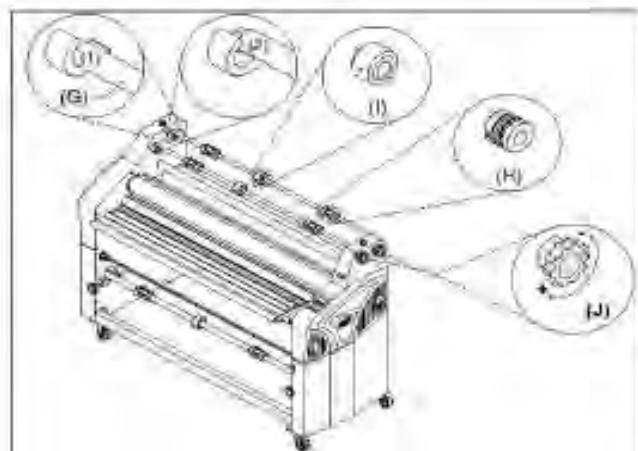

Fig. 16
(Figure 16) The upper unwind/rewind shaft holds the upper film supply or rewind tube on the machine.
H. CORE ADAPTORS: (Figure 16)
I. CORE SUPPORT: (Figure 16)
TENSION KNOBS: (Figure 16) Used to apply brake tension to the upper unwind/rewind shafts. Turning the knob clockwise increases tension and counterclockwise decreases brake tension.